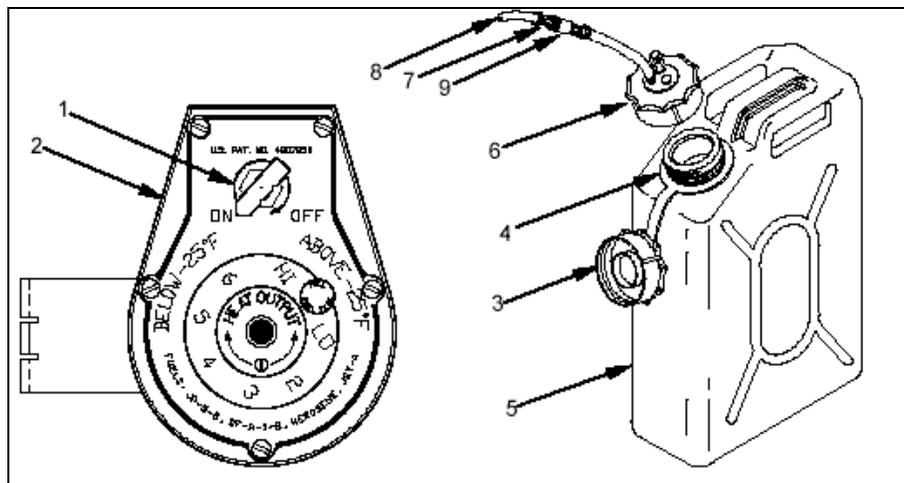

Figure 8
(4) Install Gravity Feed Adapter In Fuel Can (See Figure 8)